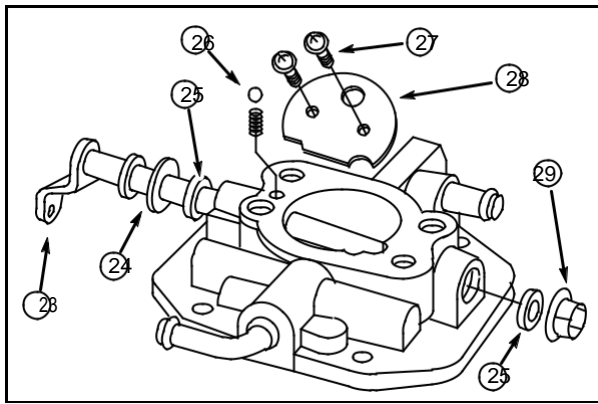

Fig. 103
Mark choke plate before removal to ensure re-installation in the original position. Top and bottom edges are beveled. Remove screws (27) and choke plate (28), **Fig. 103**.